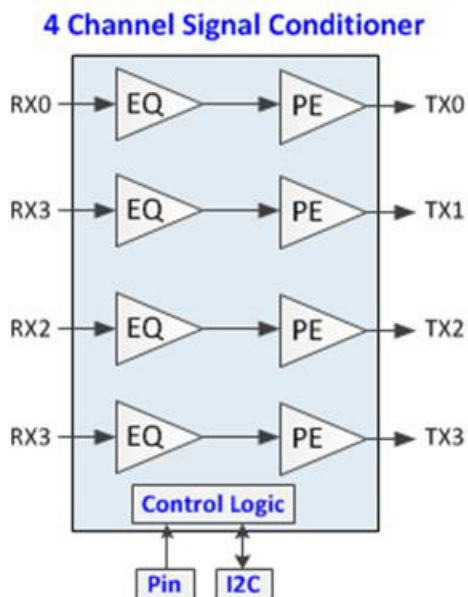

Figure 1: HMC7545AxLP47 4-Channel Signal Conditioner: Functional Diagram
The HMC7545AxLP47 operates at data rates up to 14.2 Gb/s. Its primary function is to compensate for channel losses due to long backplane, or other lengthy system PCB traces using FR4 dielectric transmission lines, for example. These compensation circuits consist of channel equalization (EQ) at the inputs, and channel pre-emphasis (PE) at the outputs, as shown in the functional diagram in Figure 1.